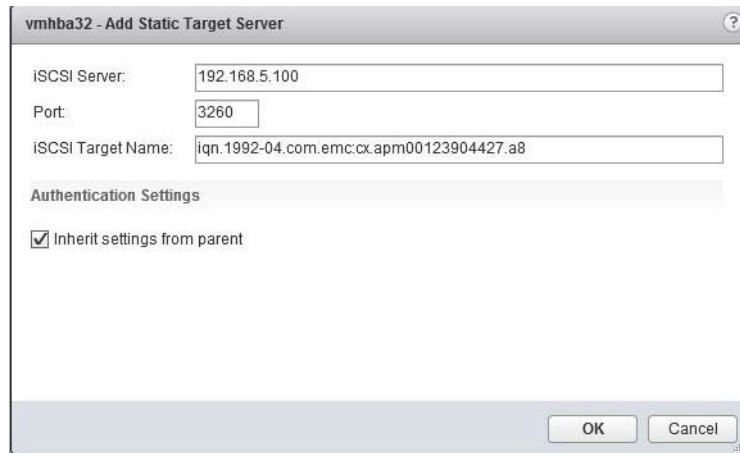

Figure 3-5. Add Static Target Server
1. Complete the Add Static Target Server dialog box as shown in Figure 3-5: